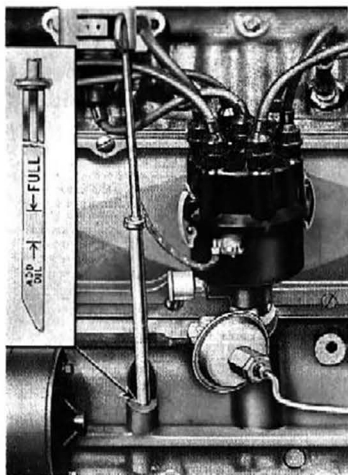

Fig. 22—Oil Gauge Rod—6 Cyl. Engine
1. Raise the hood, remove the oil gauge rod (fig. 22), wipe oil from rod with clean cloth and replace. Remove gauge rod and note level of oil. If down to the "add oil" mark, oil should be added. See "Lubrication Instructions." Install oil gauge rod.